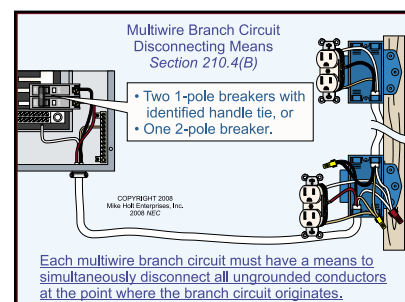

Fig. 210-2
(B) Disconnecting Means. Each multiwire branch circuit shall have a means to simultaneously disconnect all ungrounded conductors at the point where the branch circuit originates. (See Figure 210.2)